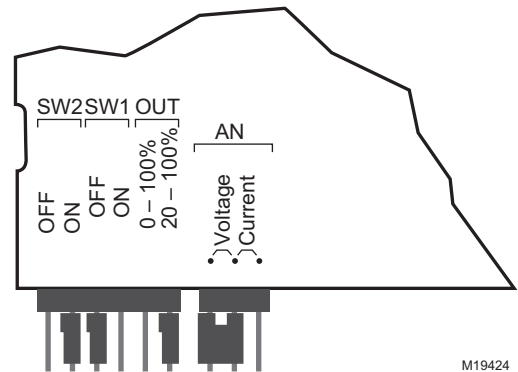

Fig. 15. C7232 default jumper settings.
- On duct models, remove the screw holding the board in place to view jumper settings on reverse. (See Fig. 15.)